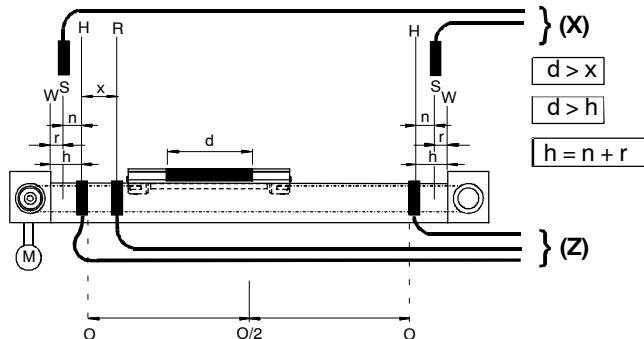

Fig. 25
- Use switching lugs of length d (➔ Fig. 25).
1. Place the **safety limit switches** in the mechanical end positions (W) as shown in Fig. 25.
2. Then position the slide at the distance h (safety distance) from the mechanical end position ($h = n + r$) → Fig. 25.
- A braking path of length n remains between the response point of the hardware limit switch and the response point of the safety limit switch (→ also Fig. 25).
- In spite of the defined end position (S) being overrun, the safety limit switches remain actuated up to the mechanical end position (W).
There must be a point at which both the reference point switch as well as the hardware limit switch near the motor respond simultaneously ($x < d$, → Fig. 25).